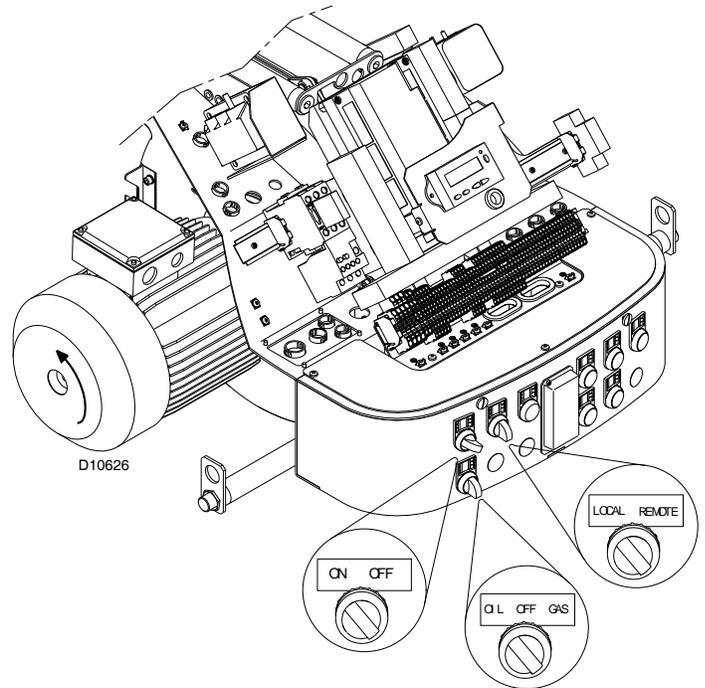

Fig. 42
Turn the switch to position “ON” (Fig. 42) and turn the switch of to position “LOCAL” and turn the switch to position “OIL” for oil operation and “GAS” for gas operation.
When the burner starts, check the direction of the motor rotation, as indicated in Fig. 42. As soon as the burner starts up, look at the cooling fan of the fan motor and check it is rotating anticlockwise.
- place the switch of Fig. 42 in position “OFF” and wait for the control box to carry out the switch-off phase;